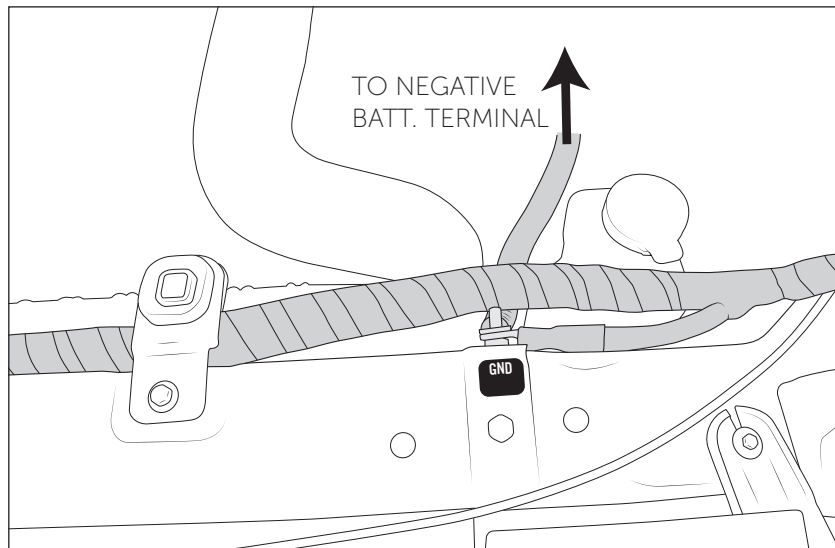

Figure 16
10. Attach ground from the main harness to the ground stud. Attach the negative cable supplied with the winch to the ground stud, routing the other end toward the battery. Secure with supplied M8 x 1.25 nut (fig. 16).